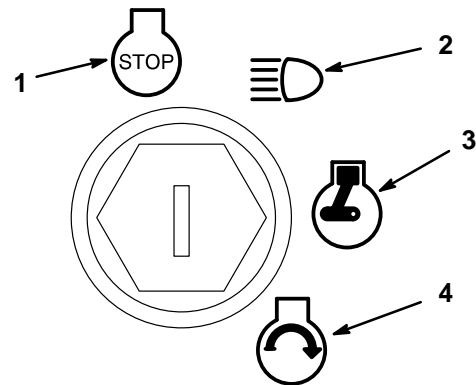

Figure 14
6. Turn the ignition key clockwise and hold it in the START position (Fig. 14). When the engine starts, release the key.
3. Turn the ignition key to "STOP" (Fig. 14).